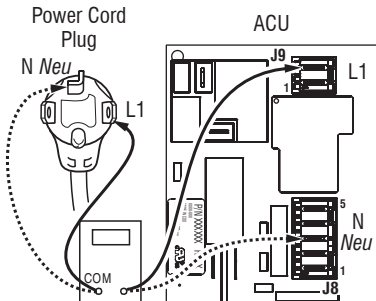

Figure 4b - Plug-to-terminal connections for electric dryer
4. With an ohmmeter, check the continuity from L1 and N plug terminals of the power cord to the terminals for L1 and N on the ACU. See figure 4b.